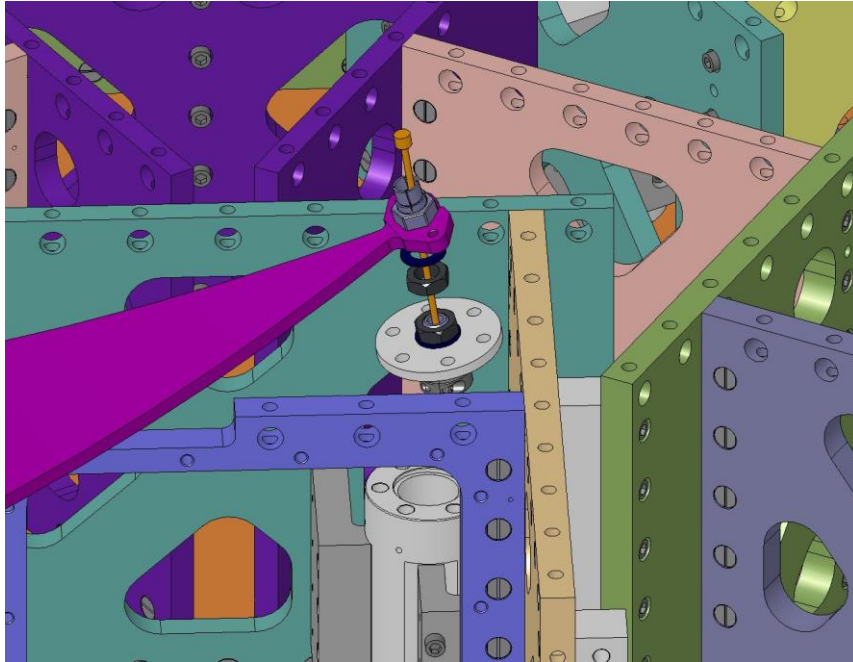

Figure 4.91. Slip a Flexure Mount over the end of the Flexure, then engage it in the Spring.
- Slide a **Flexure Mount** (D071103) over the top of the **Flexure**, as shown in Figure 4.91. Seat the **Flexure Mount** within the mating hole in the **Spring**.